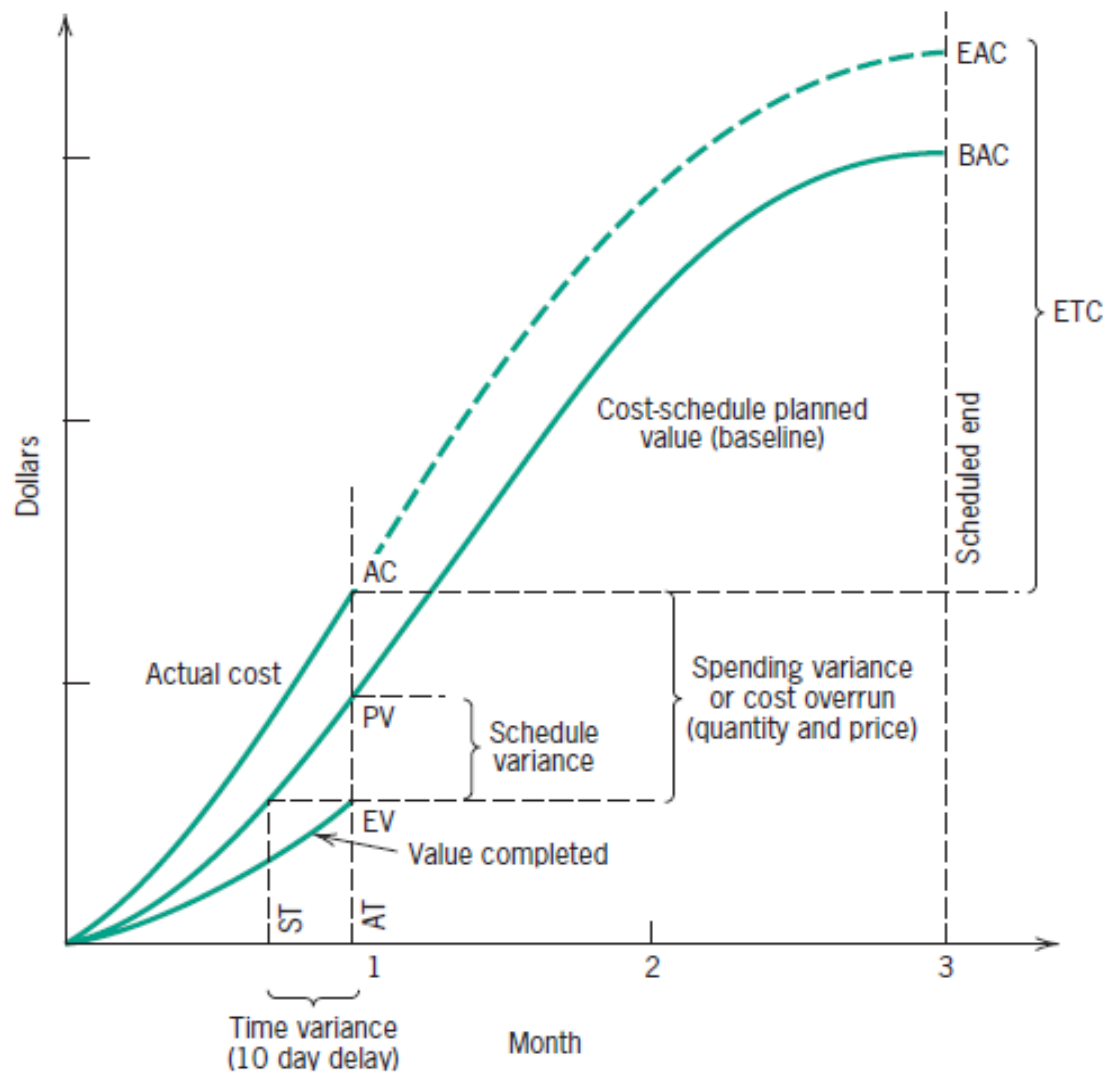

Figure 10-5 Earned value chart.
Figure 10-6 Six possible arrangements of AC, EV, and baseline PV resulting in four combinations of positive and negative schedule variance (SV) and cost variance (CV). (Figure 10-5 is arrangement *d*.)